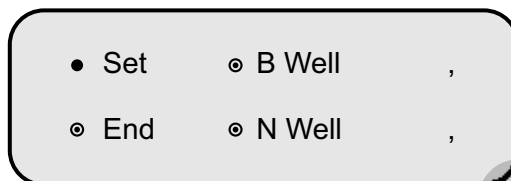

Fig. 13 : Well Setting (1)
2. If the reagent specification has no requirement, you can press **Enter** key to go to the sub menu (Fig. 13);
4. At this time, the symbol in front to Continue becomes ●. If you want to continue to program, press **Enter** key to enter the interface of wells setting (Fig. 13). If you want to return to the main menu, press **Reset** key; if you want to return to the superior menu, press **▼** till the symbol in front of Return becomes ● and then press **Enter** key.